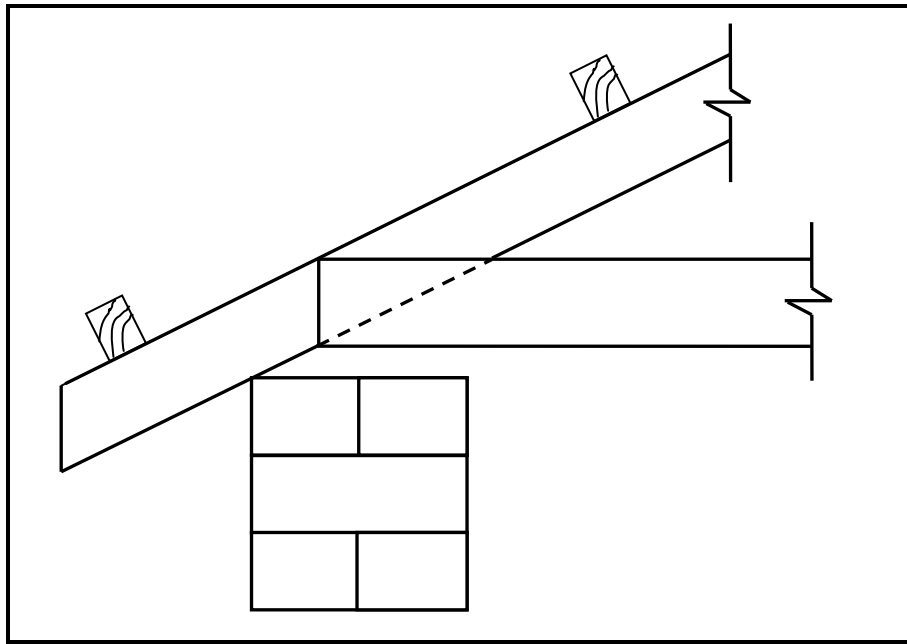

FIGURE 1.3
1.3 FIGURE 1.3 below shows an incomplete sectional view of a wall and roof construction.